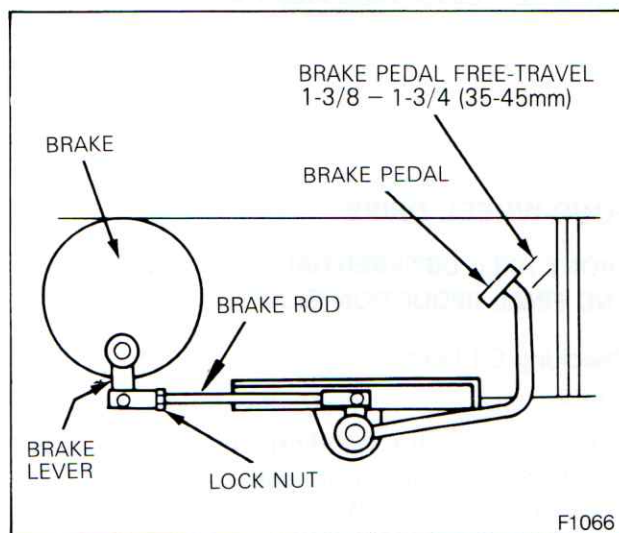

Figure 58 – Brake Pedal Adjustment
1. Loosen the lock-nut, Figure 58, and rotate the brake rod as necessary until there is $1-3/8 - 1-3/4$ inch (35-45mm) of pedal free play. Lengthening the rod increases free play while shortening the rod decreases free play.